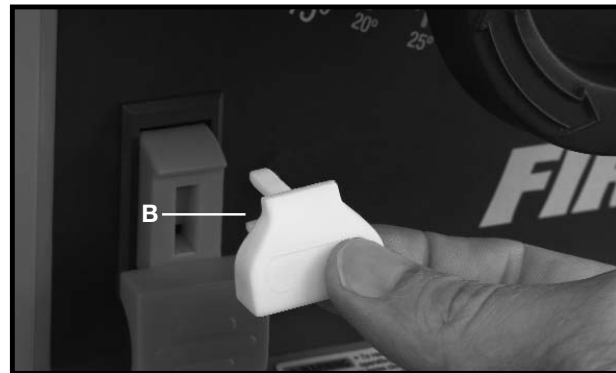

Fig. 35
IMPORTANT: When the tool is not in use, the switch should be locked in the "OFF" position to prevent unauthorized use. To lock the tool, grasp the switch toggle (B) and pull it out of the switch (Fig. 35). With the switch toggle (B) removed, the switch will not operate. However, should the switch toggle be removed while the saw is running, the machine can be turned "OFF," but cannot be restarted without re-inserting the switch toggle (B).